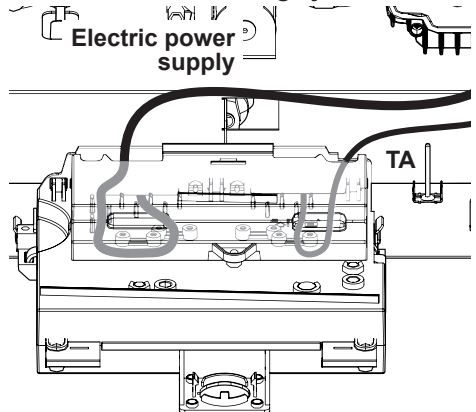

Figure 5.19
- Connect the electric power supply cable to the all-pole switch, respecting the correspondence of the power line (brown wire) and the neutral (blue wire) Figure 5.19.